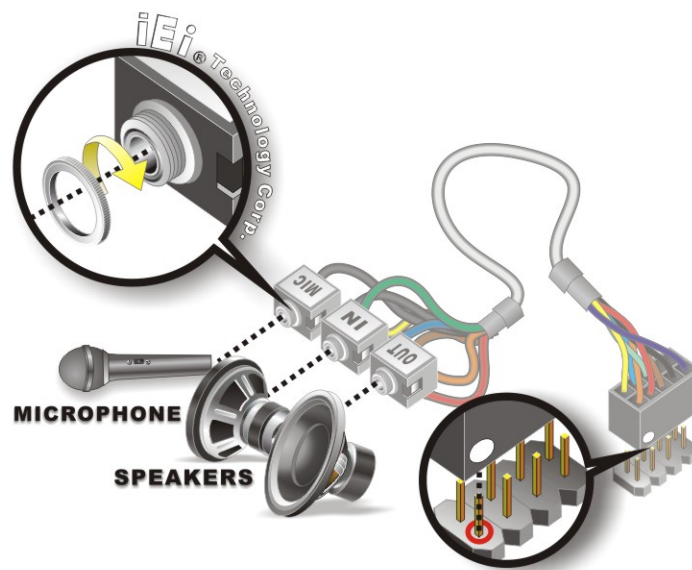

Figure 5-8: Audio Cable Connection
Step 2: **Align pin 1.** Align pin 1 on the on-board connector with pin 1 on the audio kit connector. Pin 1 on the audio kit connector is indicated with a white dot. See **Figure 5-8.**